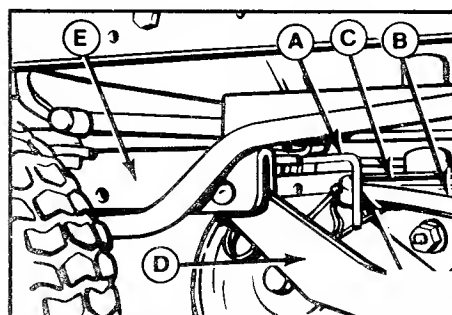
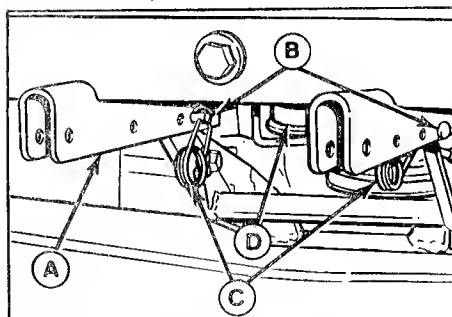
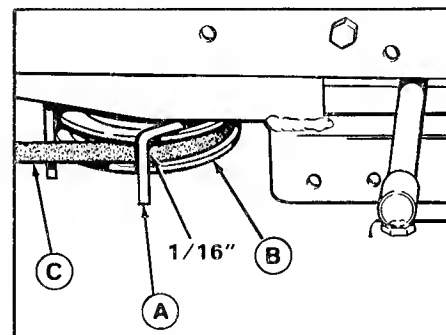

Figure 3. L.H. Belt Stop - All Mowers
Figure 4. Mower Hitch Attached
Figure 5. R.H. PTO Pulley Belt Stop - 36" Mower
9. Insert the mower hitch arms in the tractor hitch (figure 3). Align the holes in the hitch arms with the rear holes in the tractor hitch. Insert the pins (B, figure 4) from the outside and install the clips (C).
10. Slip the mower drive belt onto the engine PTO pulley (figure 3) loosening belt stops as necessary. The left-hand belt stop is shown in figure 3. The right-hand belt stop is shown in figure 5 (36" mower) or figure 6 (42" mower).